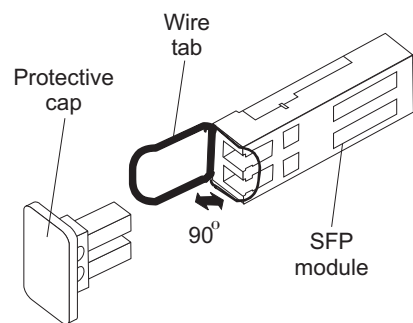

Figure 27. SFP module and protective cap
2. Remove the protective cap from the SFP module, as shown in Figure 27. Save the protective cap for future use.
2. If necessary, remove the protective cap from the SFP module, as shown in Figure 27 on page 53. Save the protective cap for future use.